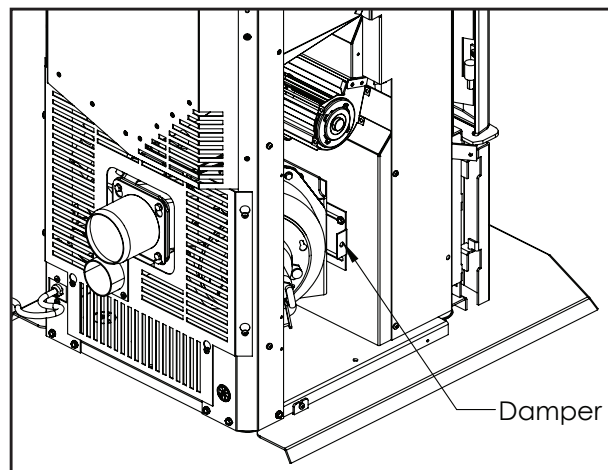

Figure 29: Slider/Damper Adjustment
**DAMPER MUST BE SET AT TIME OF INSTALLATION.** This is used to regulate the airflow through the pellet stove, this is key to an efficient clean burn. See figure 29.